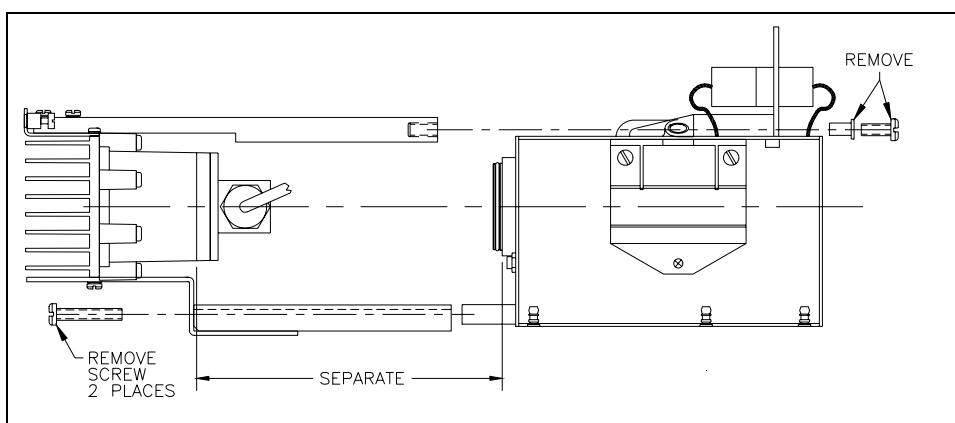

Figure 19. Rx Cell PMT Housing Separation
7. To separate the Rx cell from the PMT housing remove the three screws that secure the Rx cell to the PMT housing. Refer to Figure 19